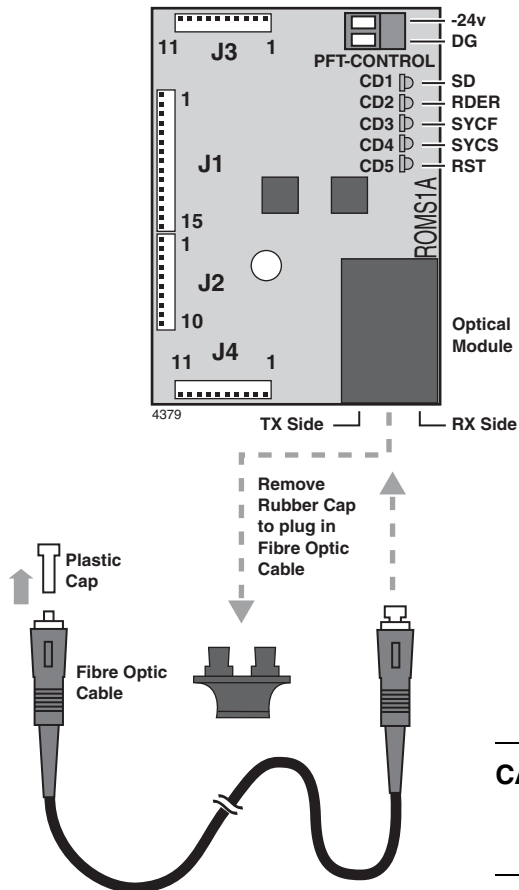

Figure 3-33 ROMS1A Subassembly
- ✦ Remove the protective rubber cap from the fibre connector on the ROMS1A daughterboard. See Figure 3-33.
The ROMS subassembly and fibre optic cable connectors is shown in Figure 3-33. Table 3-8 lists the fibre optic cable specifications.